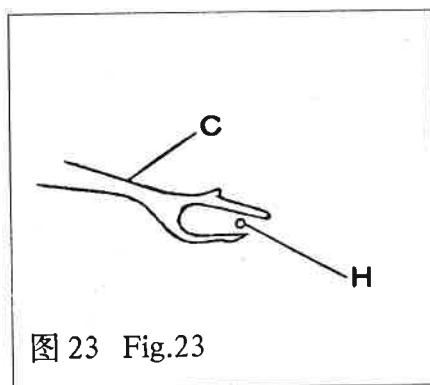

图 23 Fig.23
②作上述调整后, 必须检查钩线叉在左端(图 23)时, 机针“H”的针尖应在钩线叉“C”的叉口中间或机针稍低于中间位置通过。如有相撞, 必须作相应调整, 达到左右兼顾。
(3) Adjustment of the position of the thread hook
② When the thread hook locates at the left end (Fig.23) after completing the said adjustment, the needle point "H" shall be in the middle of the prong of the thread hook "C". The needle can also pass the thread hook at a location lower a bit than the middle. Microadjustment can be made if the needle point comes into contact with the thread hook.
(4) 钩线叉的前后位置